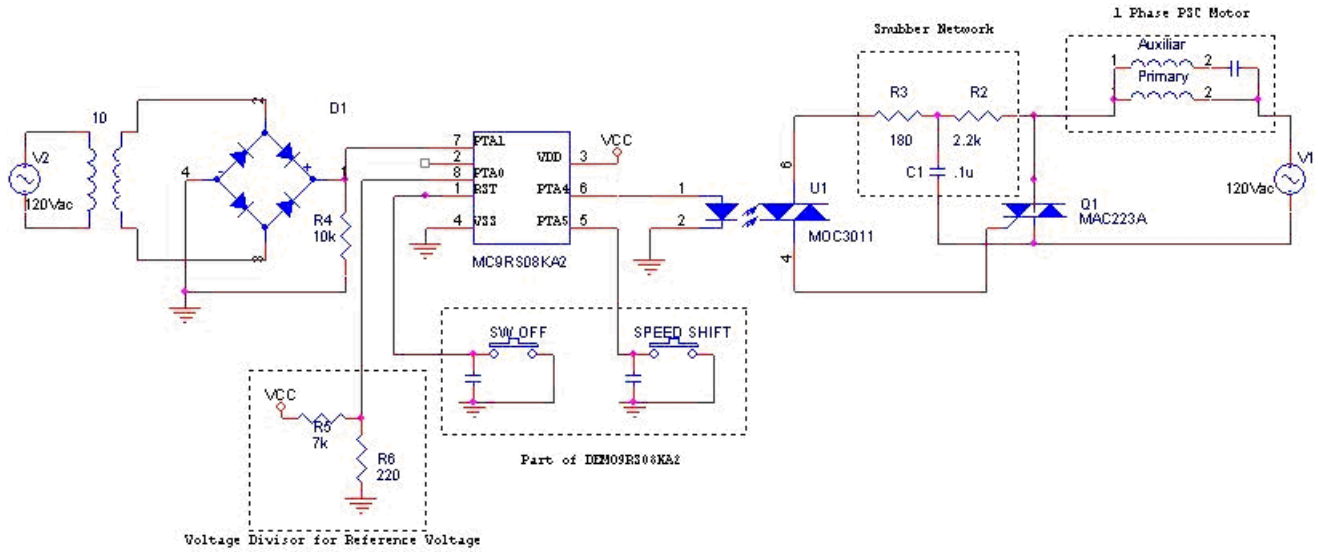

Figure 13. Complete Circuit
6. Connect the motor one cable where the 2 K Ω and the TRIAC are connected and the other to the reference Figure 13.